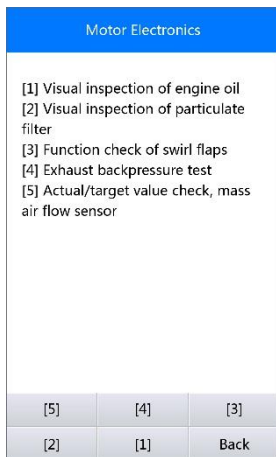

Figure 5-32 Sample Particle Filter Tests
- 1) Select **[1]** and **OK** button from the particle filter test menu (*Figure 5-32*).
- 1) Select **[2]** and **OK** button from the particle filter test menu (Figure 5-32).
- 1) Select **[3]** and **OK** button from the particle filter test menu (*Figure 5-32*).
- 1) Select **[4]** and **OK** button from the particle filter test menu (*Figure 5-32*).
1) Select **[5]** and **OK** button from the particle filter test menu (*Figure 5-32*).